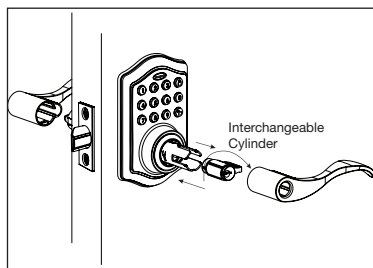

Figure 12a
- Make sure lock cylinder is in line with handle (Figure 12a).